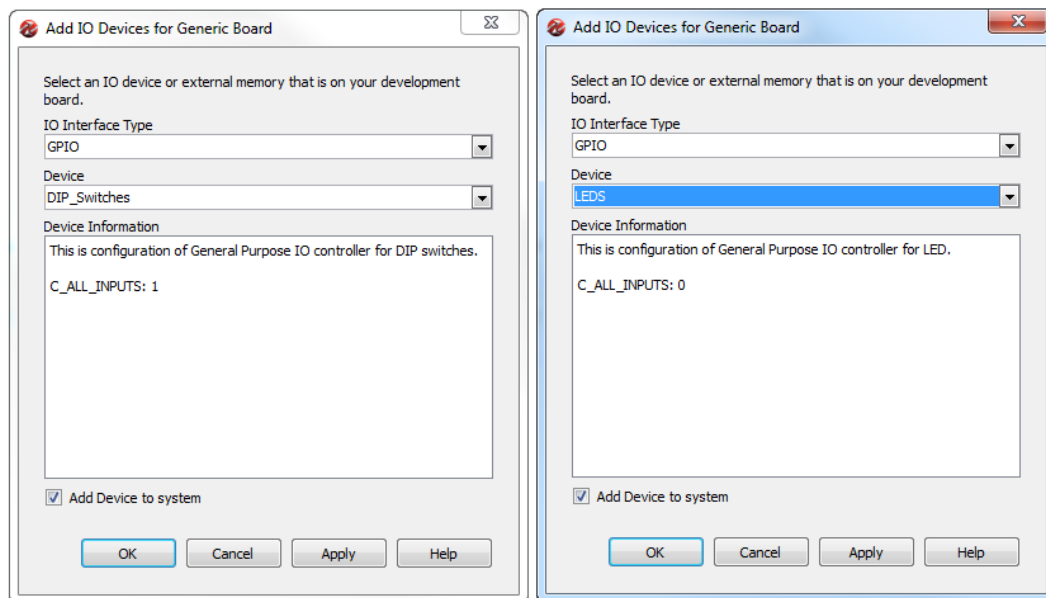
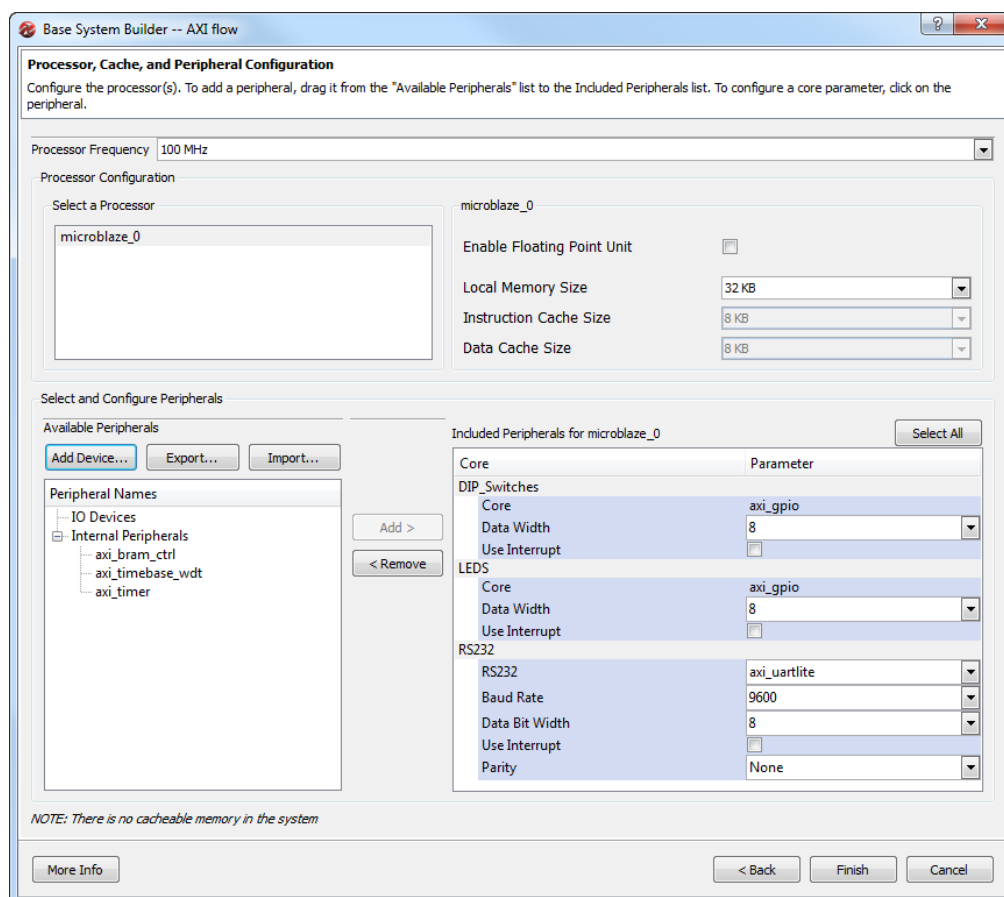

Figure 7: Wizard, Add DIP\_Switches and LEDs Peripherals
Figure 8: BSB Wizard, with Peripherals Configuration Default Values
3. For first peripheral select **IO Interface Type** select **GPIO**. In **Device** *DIP\_Switches*. Leave filed **Add Device to the system** checked (Figure 7). Click on **OK**. In included peripherals for MicroBleze will appear *DIP\_Switches* peripheral with **Core** name (*axi\_gpio*) Default **Data Width** 8, and unchecked filed **Use Interrupt** (Figure 8). Leave all defaults values.